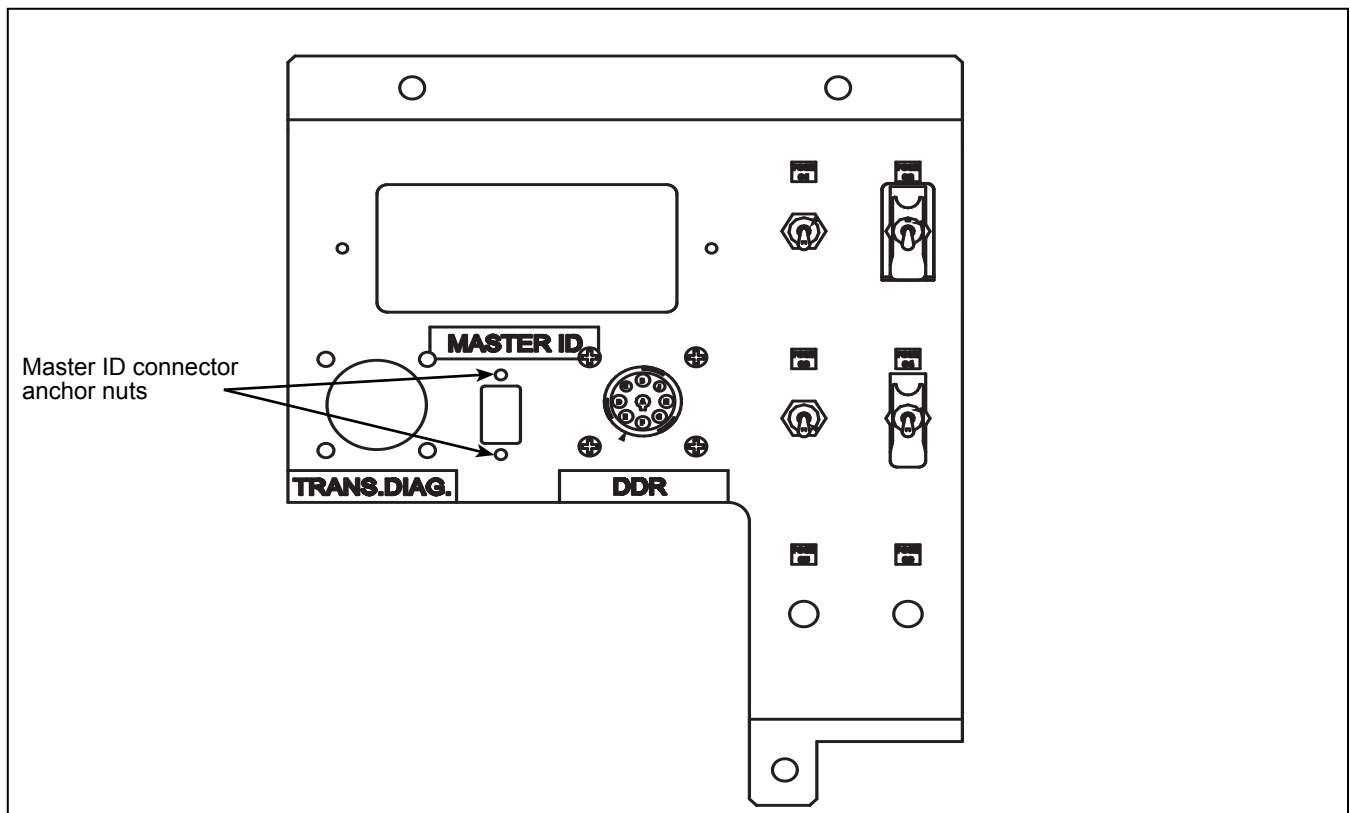

Figure 1 - Typical Overhead Console Panel
- 1.4. With a 5 mm (3/16 in.) nut driver, remove the Master ID anchor nuts from the overhead console panel. Retain the hardware. See Figure 1.
- 1.5. Install the female connector of the new cable N81735 in the Master ID position on the overhead console panel. Use the retained hardware to attach the connector using a 5 mm (3/16 in.) nut driver. See Figure 1.